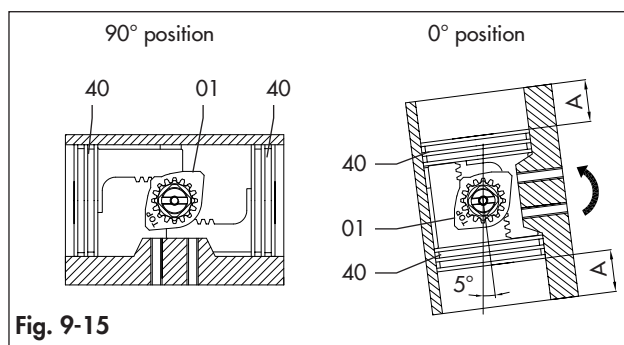

Fig. 9-15
- With pistons completely closed (0° position) as per Fig. 9-15, referring to the axis of the body, the rotation obtained must be:
- With pistons completely closed (0° position) as per Fig. 9-15 the dimension "A" must be the same on both sides
- With the actuator in close position (0° position) referring to Fig. 9-15 for pistons position, screw or unscrew the right stop screw (02) 1 turn at a time until the desired stop position is achieved. In case of spring return actuator, a pneumatic supply may be necessary.